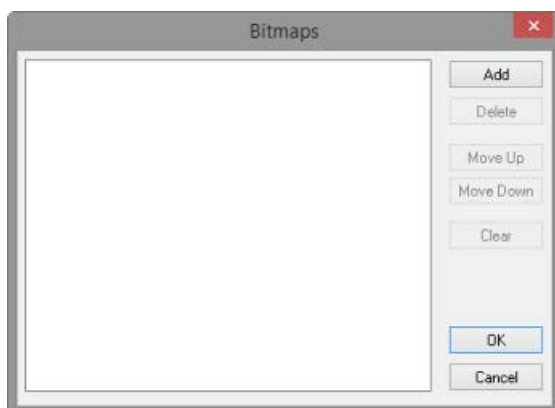

FIG. 21 Bitmaps dialog
3. Click the browse button to open the *Bitmaps* dialog (FIG. 21):